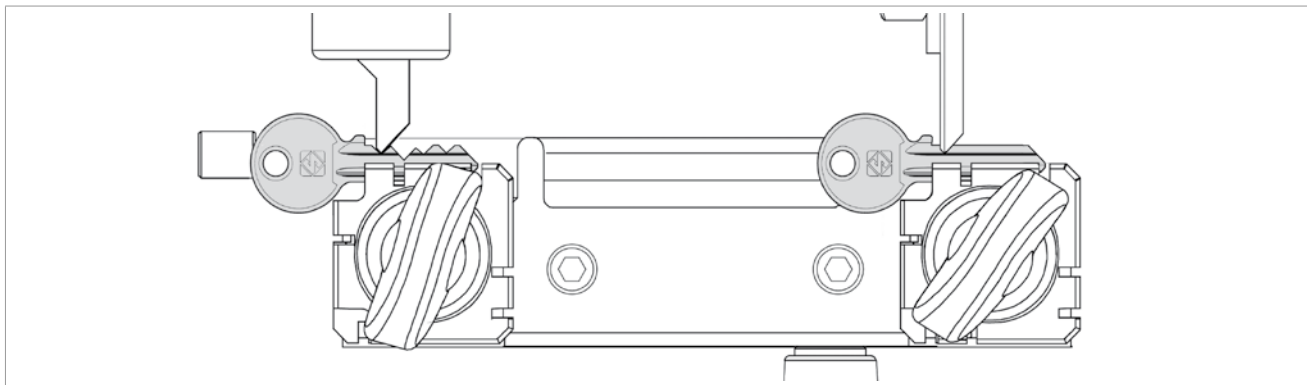

Fig. 23
- 1) Take the carriage up to the tracer point/cutter and keep the tracer point on the cut (Fig.23).
- 3) Turn off the machine with switch (K) before removing the duplicated key.
- 5) Turn on the machine with switch (K) and smooth off the key edges by means of the brush (S).